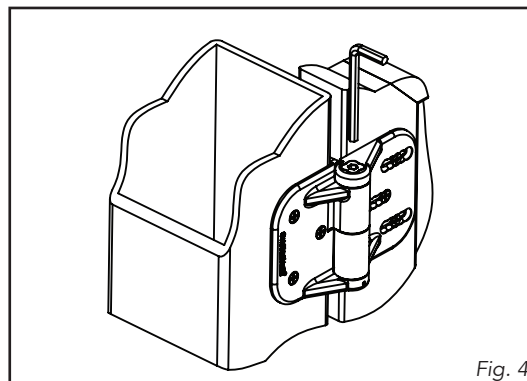

Fig. 4
1. Insert allen wrench into the cam at the end of the hinge barrel (Fig 4).